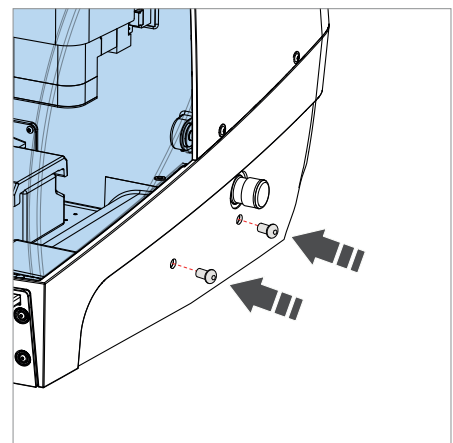

Fig. 23
- 2) Close the holes on the base with the screws provided (Fig. 23).